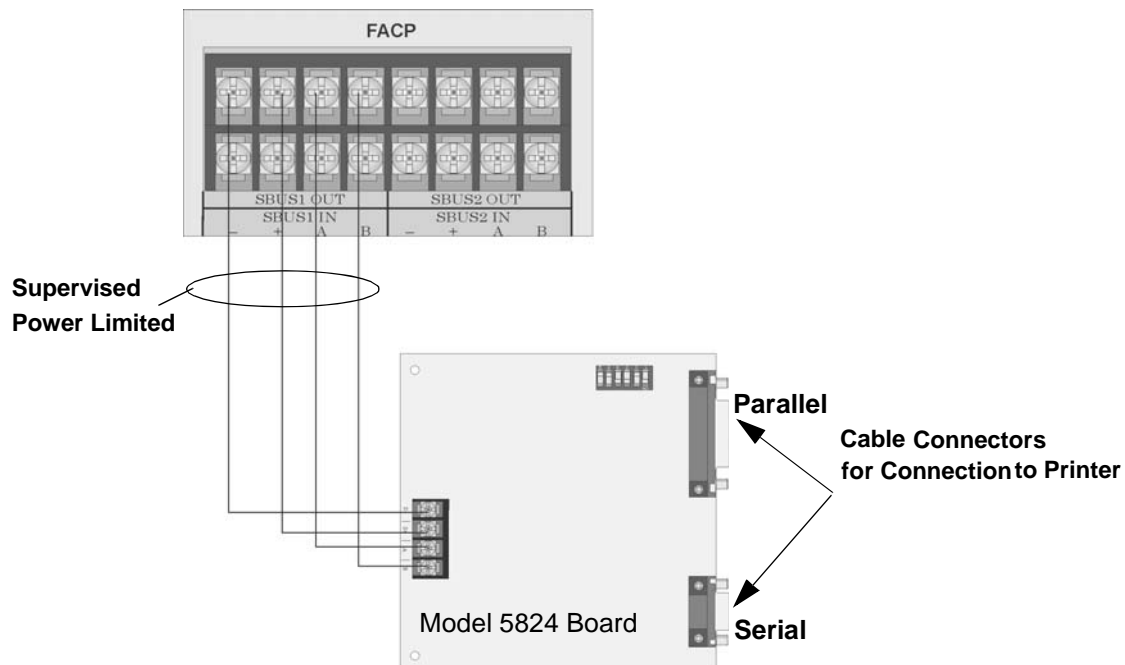

Figure 4-35 5824 Connection to the Panel
2. Connect the 5824 to the FACP as shown in Figure 4-35.